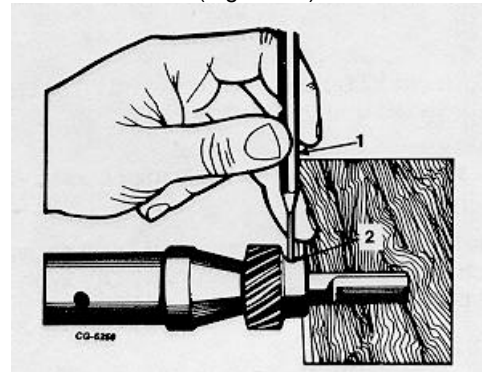

Fig. 18. Removing Distribution Driven Gear Pin
6. Support distributor shaft on a wood block or in a vise equipped with soft jaw shields and drive roll pin from gear or thrust collar and distributor shaft using a punch and hammer (Figure 18).